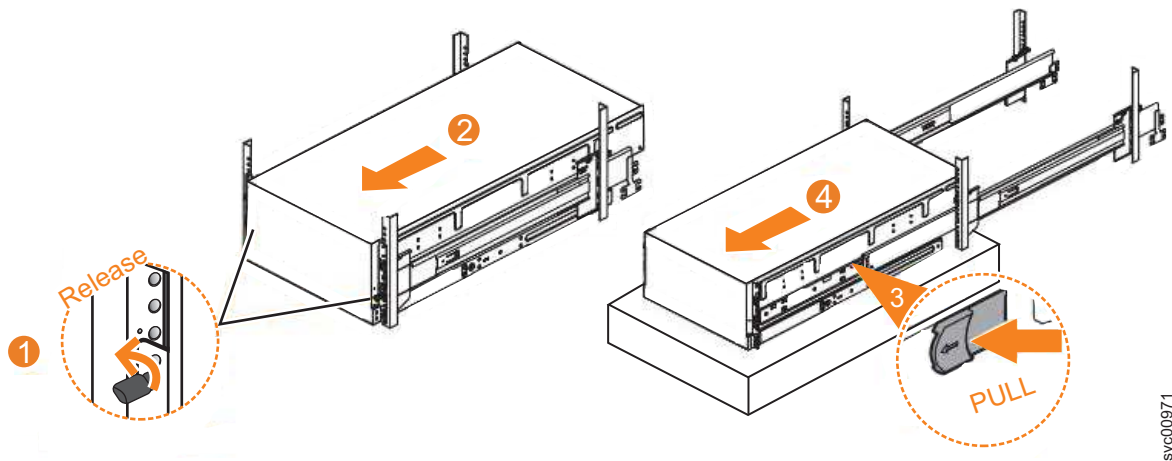

Figure 104. Removing the 2145-92F enclosure from the rack
1. Loosen the locking thumb screws (**1**) on the front of the enclosure, as shown in Figure 104.
2. Carefully slide the enclosure forward out of the rack (**2**), as shown in Figure 104.
3. Locate the left and right blue release tabs near the front of the enclosure. Pull both release tabs forward to unlock the drawer mechanism (**3** in Figure 104).
4. Slide the enclosure and inner rail member out of the rack (**4** in Figure 104).